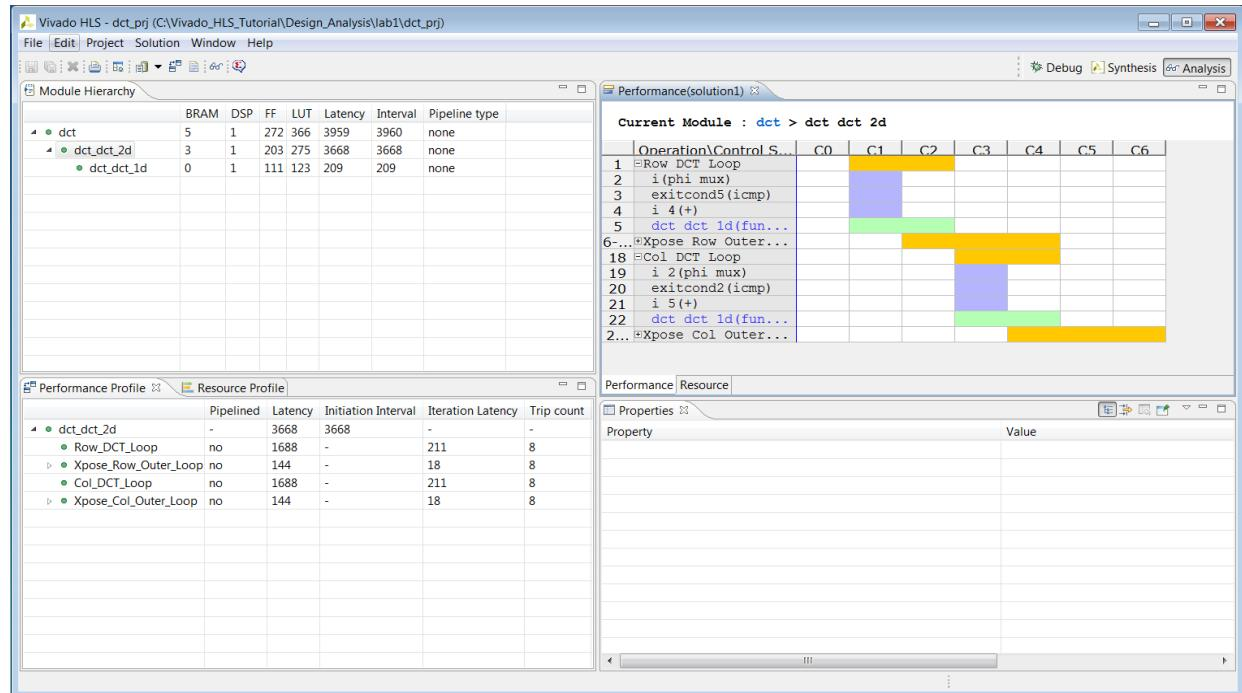

Figure 6-11: DCT_2D Performance View
6. In the Module Hierarchy pane, click the function `dct_2d` to navigate into the view for this function (Figure 6-11).
In the Performance Profile you can see that the latency of all the loops has been substantially reduced (Row_DCT_Loop and Col_DCT_Loop have been approximately halved from the earlier report in Figure 6-11). However, the majority of the latency is still due to these two loops, each of which calls the `dct_1b` block.